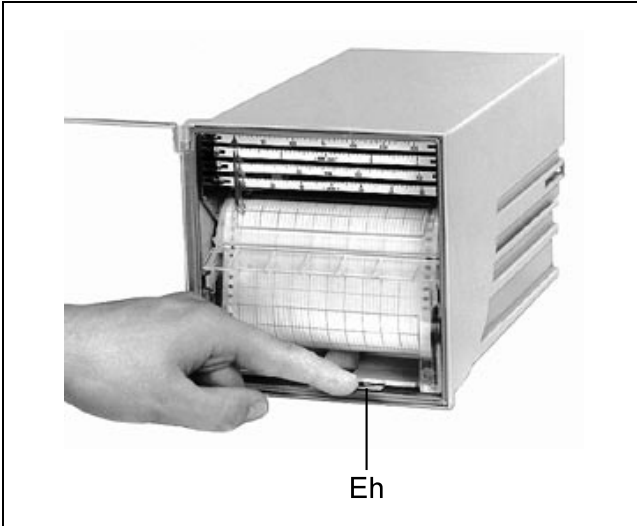

Fig. 5 Unlocking the chart unit
1. Unlock chart unit: Press unlocking lever *Eh* (see fig 5). Chart unit swings forwards. Remove chart unit in the direction of the arrow.
1. Unlock the chart unit: Press unlocking lever *Eh* downwards (see fig. 5). Chart unit swings forwards.
1. Unlock the chart unit: Push the unlocking lever *Eh* downwards (see fig. 5). Chart unit springs forward.